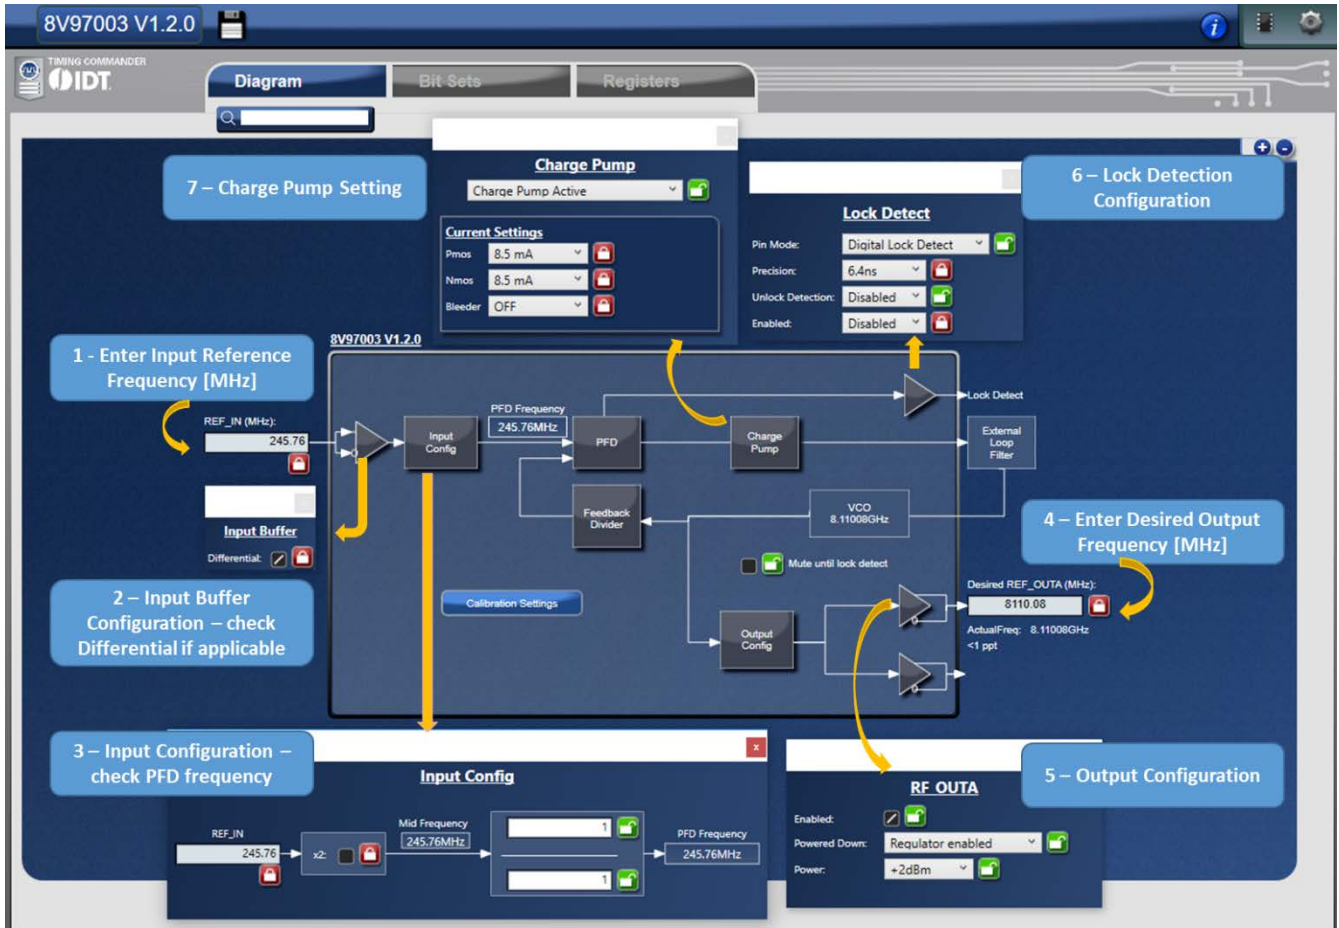

Figure 19. Timing Commander GUI for Creating New Integer Mode Configuration
- c. Set Pmos = 8.5mA, Nmos = 8.5mA, Bleeder = 1100µA to improve phase noise performance as shown in Figure 19.